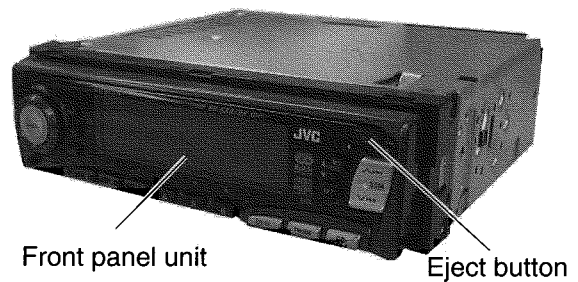

Fig 1
■ Removing the front panel unit (See Fig. 1, 2)